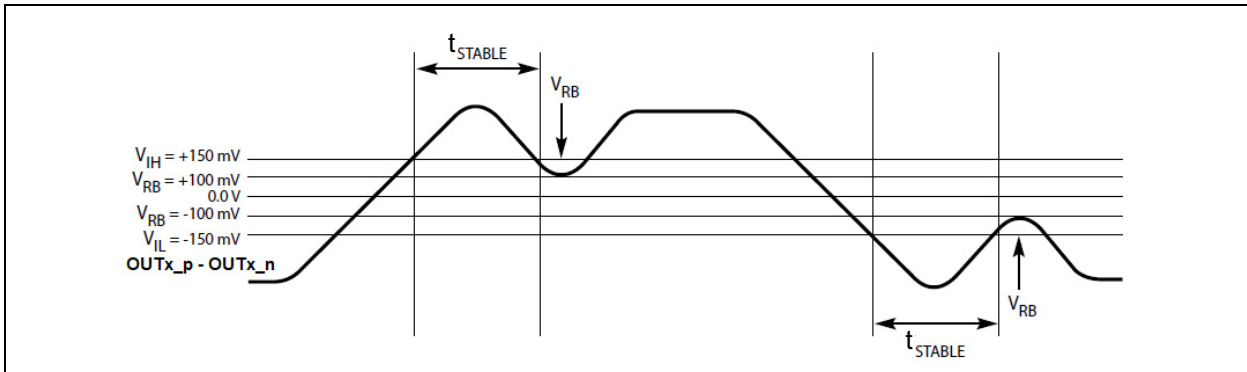

FIGURE 1-6: Differential Measurement Points for Ringback.
- 7:** t_{STABLE} is the time the differential clock must maintain a minimum ± 150 mV differential voltage after rising/falling edges before it is allowed to droop back into the $V_{RB} \pm 100$ mV differential range. See Figure 1-6.